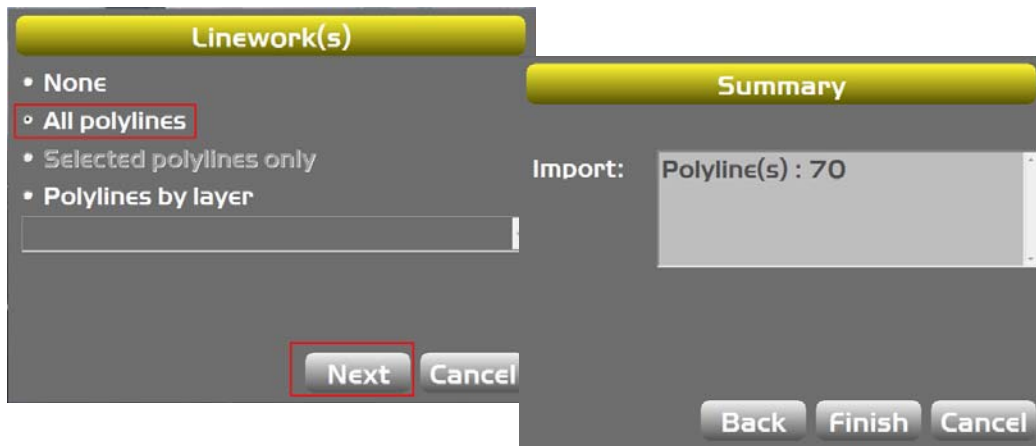

Figure 25: Importing Linework and Polyline
- On the **Summary** screen, tap **Finish** to return to the **Project Layers** screen (Figure 25).